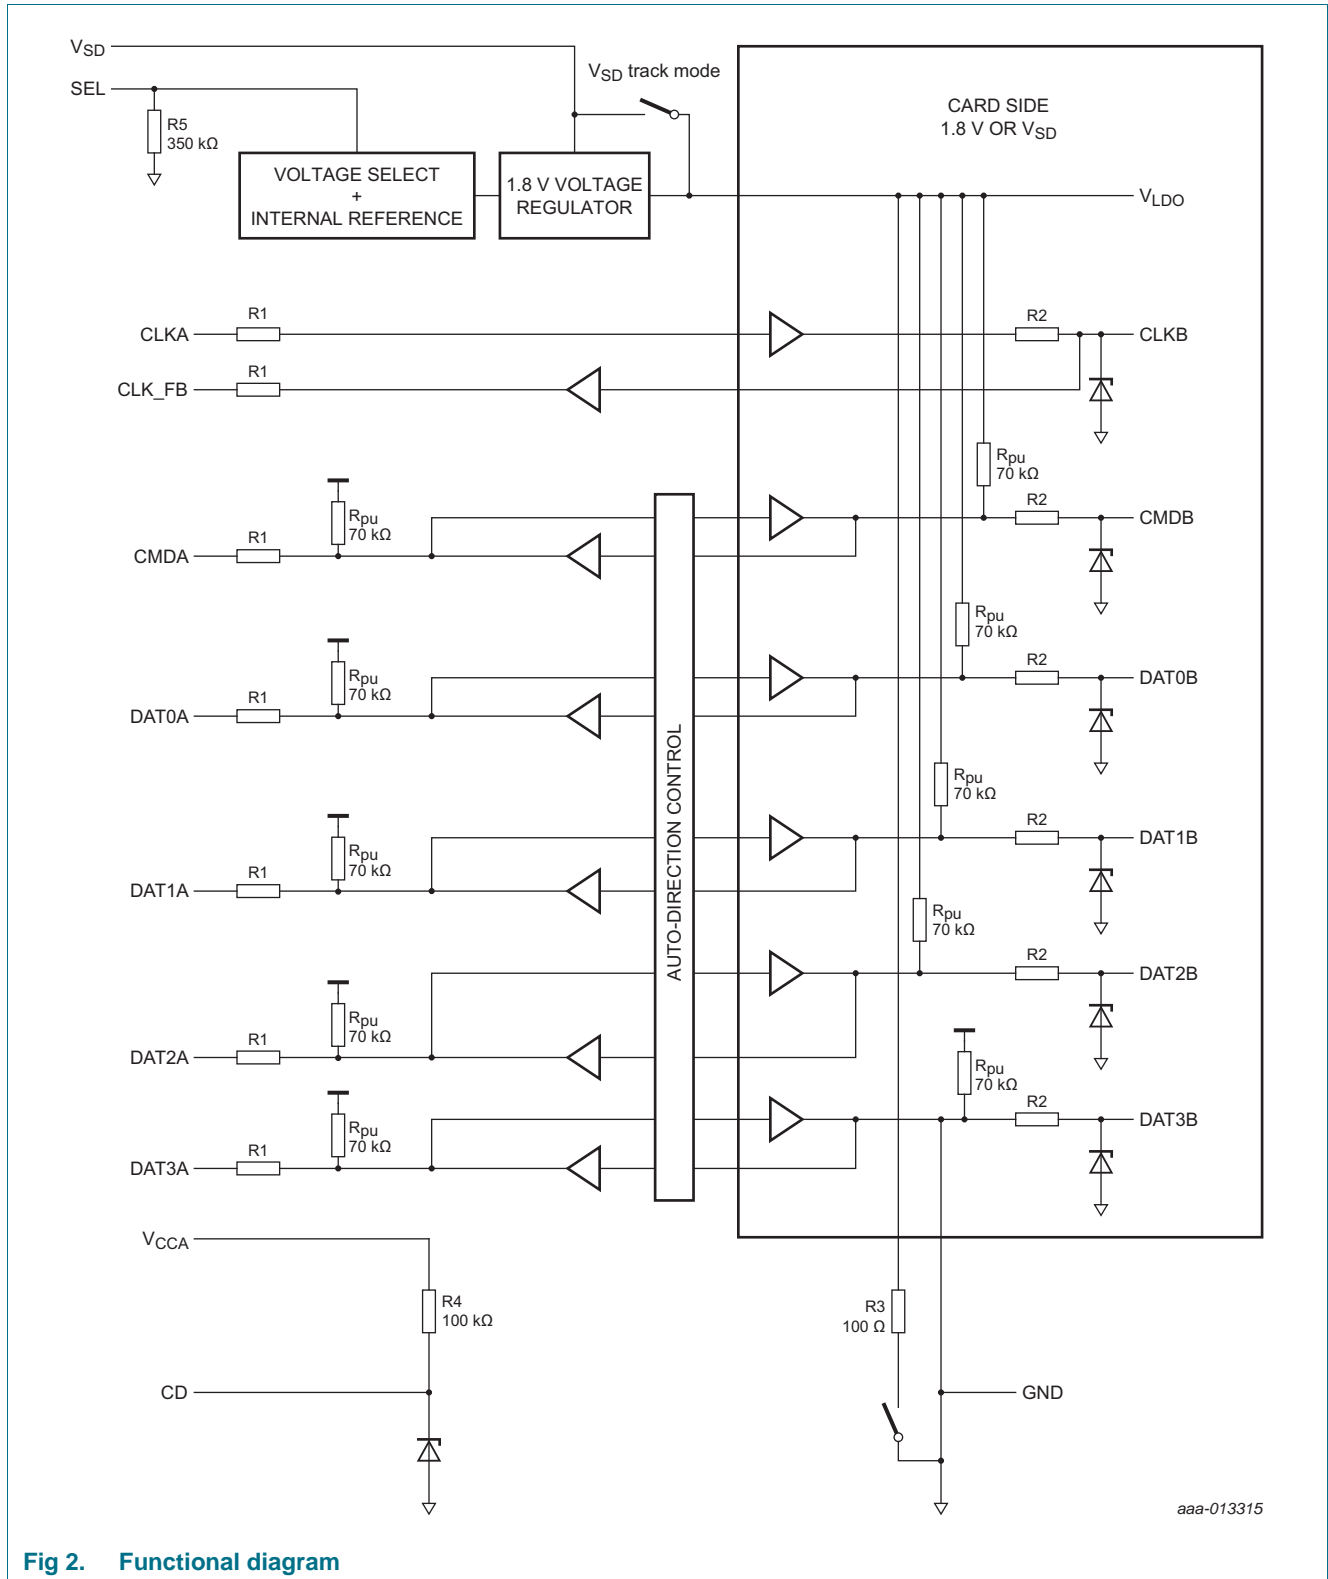

Fig 2. Functional diagram
1. $CLKA$ is a pure high-ohmic input. Please refer to Figure 2 "Functional diagram" for more detail.